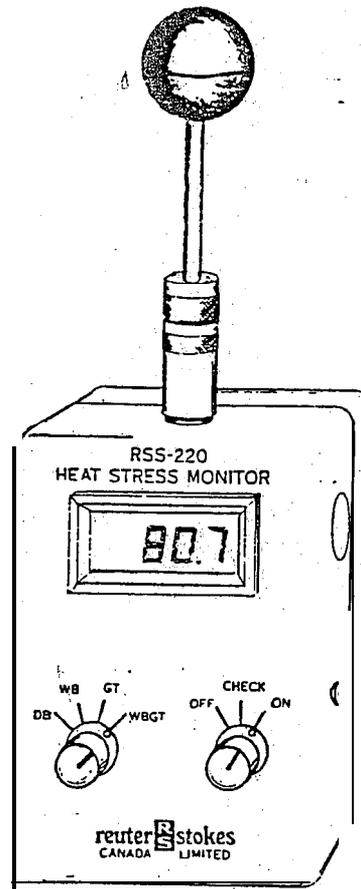

Figure 1. --WBGT Meter.
a. The WBGT Meter (figure 1 of this enclosure) will be the primary means of measuring the WBGT Index at each of the stations. Readings will be taken in the vicinity of the existing WBGT instrument setup. The meter measures the dry bulb (DB), wet bulb (WB), Globe Temperature (GT) and the WBGT in the range between 65°F and 165°F. The present WBGT instrument setup located at each of the stations will continue to be maintained as a secondary means of measuring the WBGT should the meters fail.